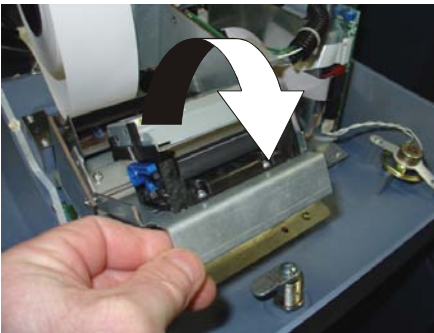

Figure 5-7. Rotate printer open.
9. Rotate the printer towards the front of the unit (Figure 5-7).